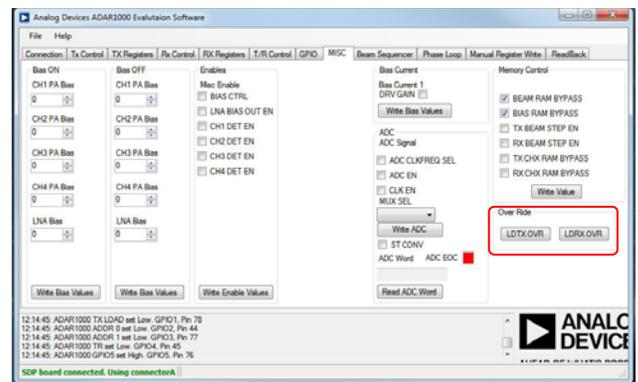

Figure 20. Load Receive Override
1. Click the **MISC** tab (see Figure 20).